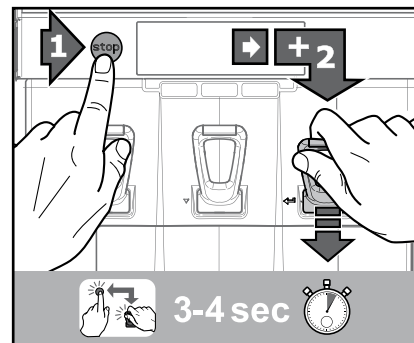

Fig. 20
1. Press first the STOP button and then pull the handle ‚ENTER‘ ← and hold them simultaneously for 3-4 seconds to enter the cleaning mode (fig. 20).